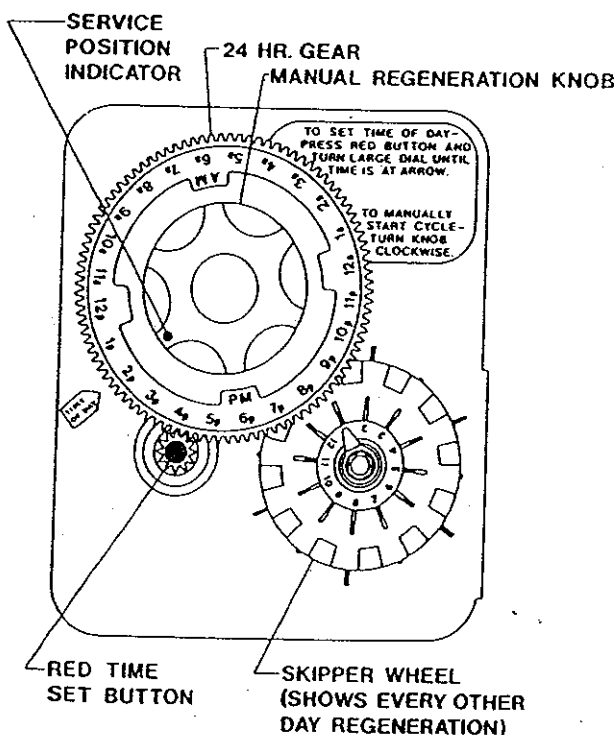

Figure 1
2. The control valve **must be in the SERVICE position!** If needed, rotate manual regeneration knob on timer clockwise until white dot aligns with raised time of day arrow. (See Figure 1.)
1. The control valve **must be in the SERVICE position!** If needed, rotate manual regeneration knob on timer clockwise until white dot aligns with raised time of day arrow. (See Figure 1.)
1. Locate the skipper wheel just to the right of the manual regeneration knob. (See Figure 1.)
NOTE: Figure 1 shows the program wheel set for every two (2) days.
1. Depress red button on lower left side of timer door. (See Figure 1.)